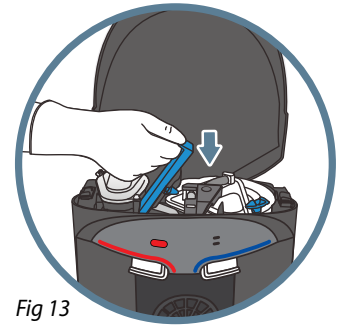

Fig 13
- Rotate the blue knobs to the closed position. Close and latch the blue locking arm (Fig 13).